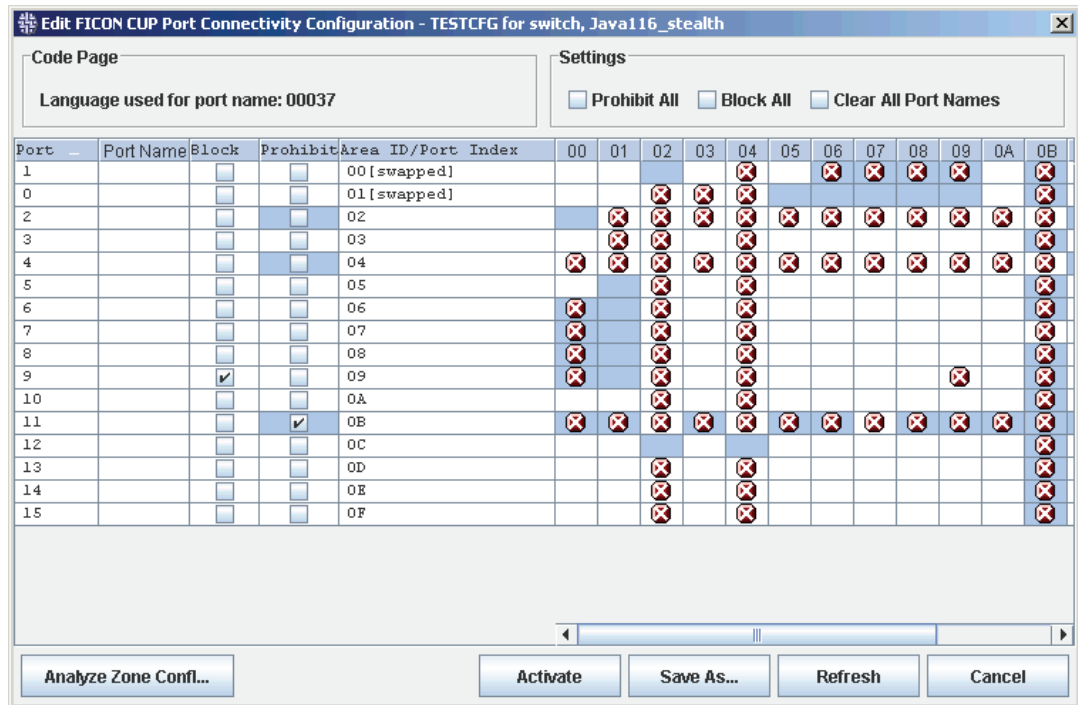

Figure 18-1 Editing the Port Connectivity Configuration
The Edit FICON CUP Port Connectivity Configuration dialog displays (see Figure 18-1). Any modified values are indicated with a blue background.
- Click **New** to create a new configuration. This launches the Edit FICON CUP Port Connectivity Configurations dialog (see Figure 18-1 on page 18-3).
- Click **Edit** to edit the selected configuration. This launches the Edit CUP Port Connectivity Configurations dialog (see Figure 18-1 on page 18-3).